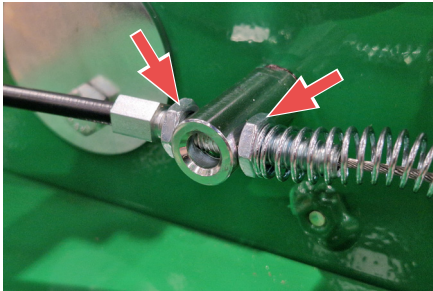
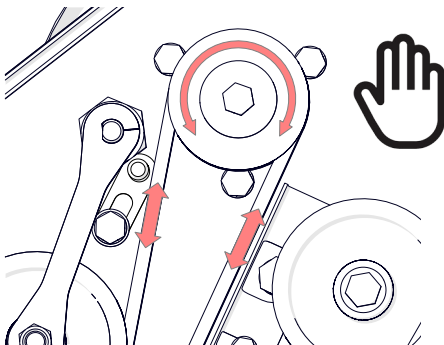

Fig. 13F - Tension by adjusting the nuts accordingly.
Fig. 13G - Check correct tension by moving the pulley by hand.
- iv. Engage the cutting lever - the tensioner pulley will make contact with the belts and put them under tension. Adjust the two nuts of the cable to achieve more or less tension on the belts (Fig. 13F). Turn the top pulley (by hand), the belts should move freely and turn the lower pulley accordingly (Fig. 13G). When the cutting lever is disengaged, the tensioner pulley will 'rest' on the belts and not provide any form of firm pressure (turning of the pulley does not result in the belt moving).